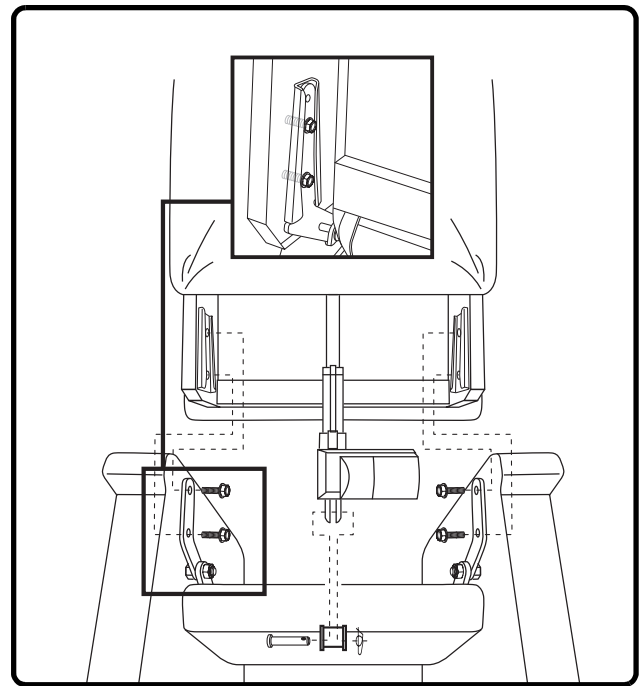

Figure 4.2 Lift Chair Assembly
2. With the pillow side of the chair-back and the lift chair armrests both facing the same forward position, slide the bracket of the chair-back into the bracket on the chair base, aligning the holes in both brackets. Insert the 4 bolts into the bracket holes (**Fig. 4.2**).